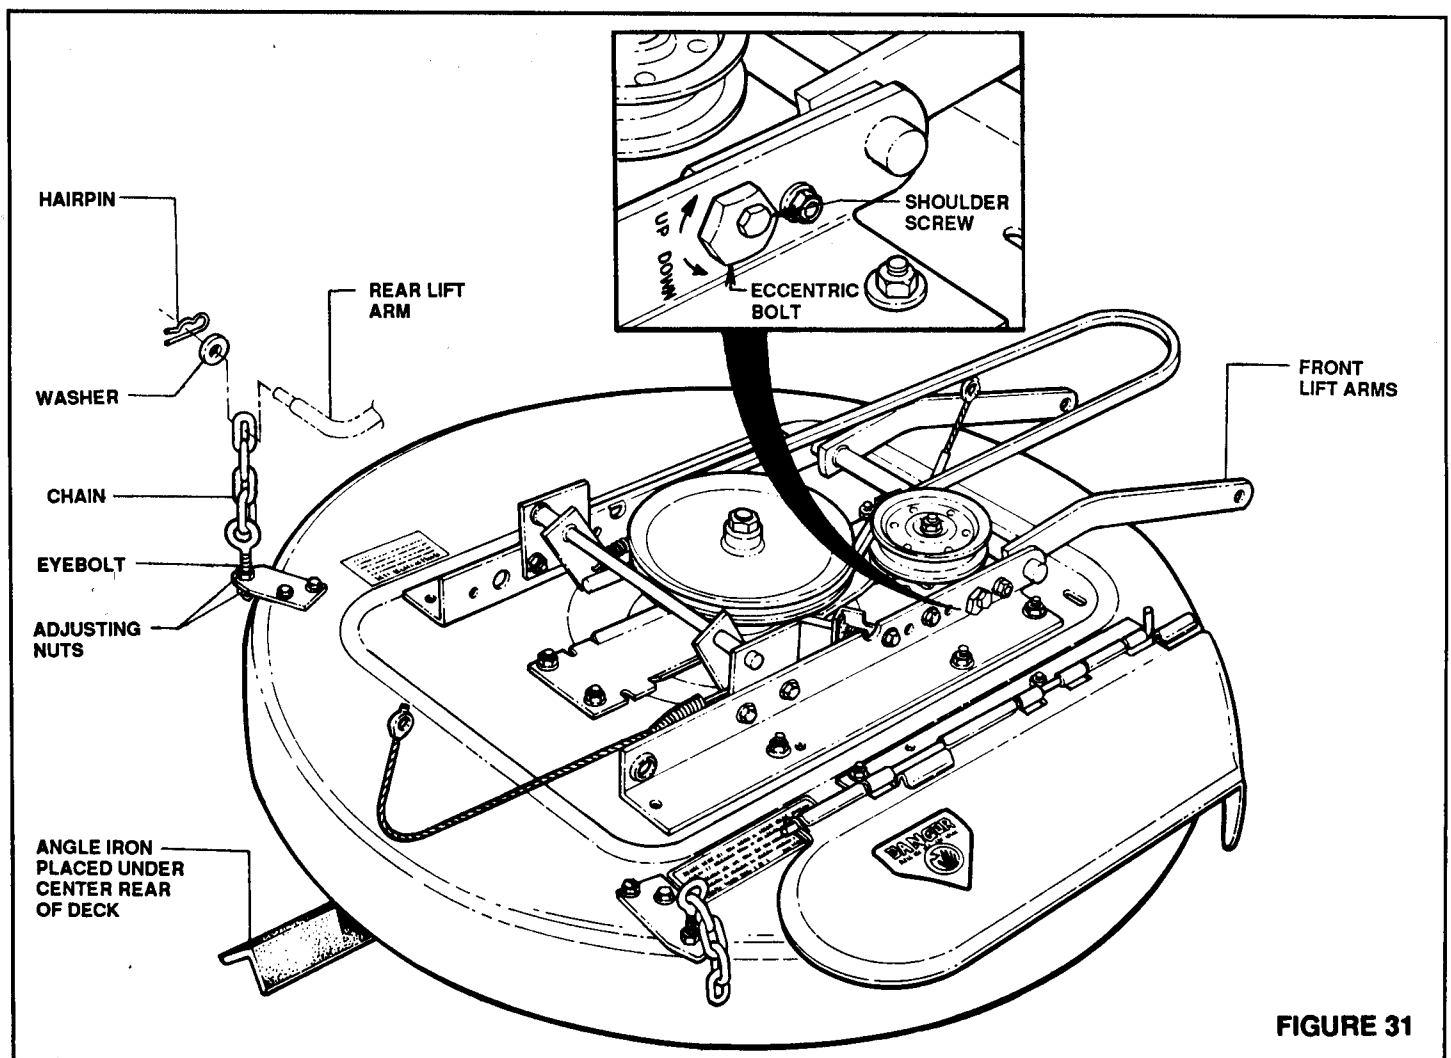

FIGURE 31
- (5) Turn the ECCENTRIC BOLT "UP" or "DOWN" to level deck within 1/8" side-to-side.
- (6) When deck is level, tighten SHOULDER SCREW.
- (7) Re-attach CHAINS to REAR LIFT ARMS.
- (8) If either CHAIN is slack, adjust EYEBOLT until both CHAINS have equal tension. Recheck deck level. See Figure 31.